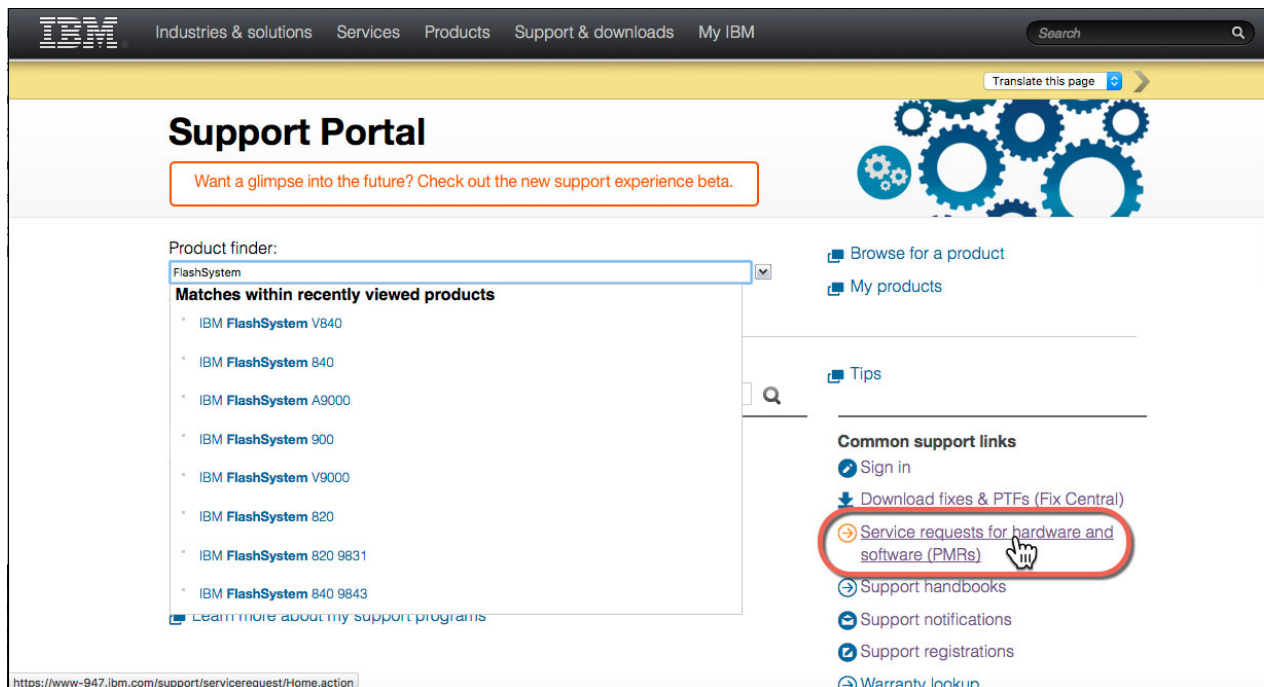

Figure 7-36 Service request link on Support Portal
IBM provides the service request (SR) problem submission tool (the link is highlighted in Figure 7-36) to electronically submit and manage service requests on the web. This tool replaces the Electronic Service Request (ESR) tool.